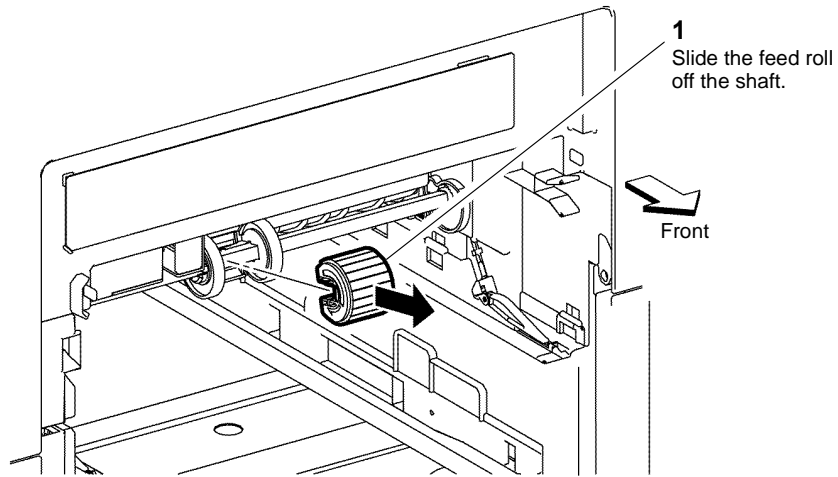

Figure 3 Feed roll removal
6. Remove the feed roll, Figure 3.